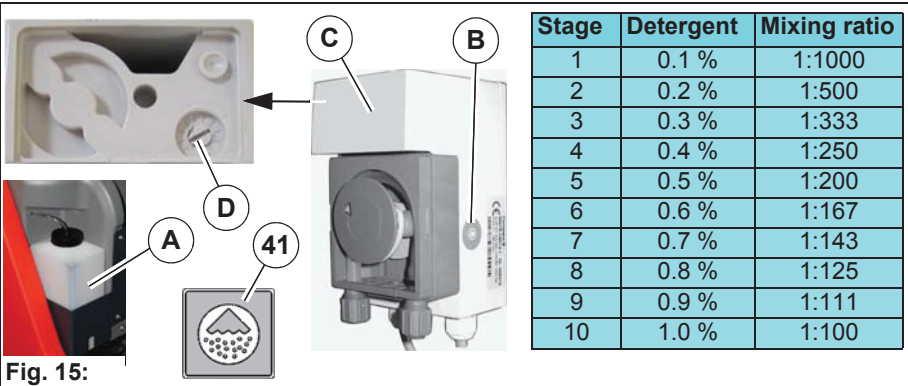

Fig. 15:
1. Fill the canisters **Fig. 15-A** with detergent.
4. Press the quick ventilation switch **Fig. 15-B** at the dosing pump until detergent is available at the non-return valve.
1. Remove the grey cover **Fig. 15-C** at the dosing pump.
Set the rotary knob **Fig. 15-D** between stage 1 and 2, see table.
Check the hose section **Fig. 15-D** in the hose pump (length approx. 23 mm) and replace it if necessary.